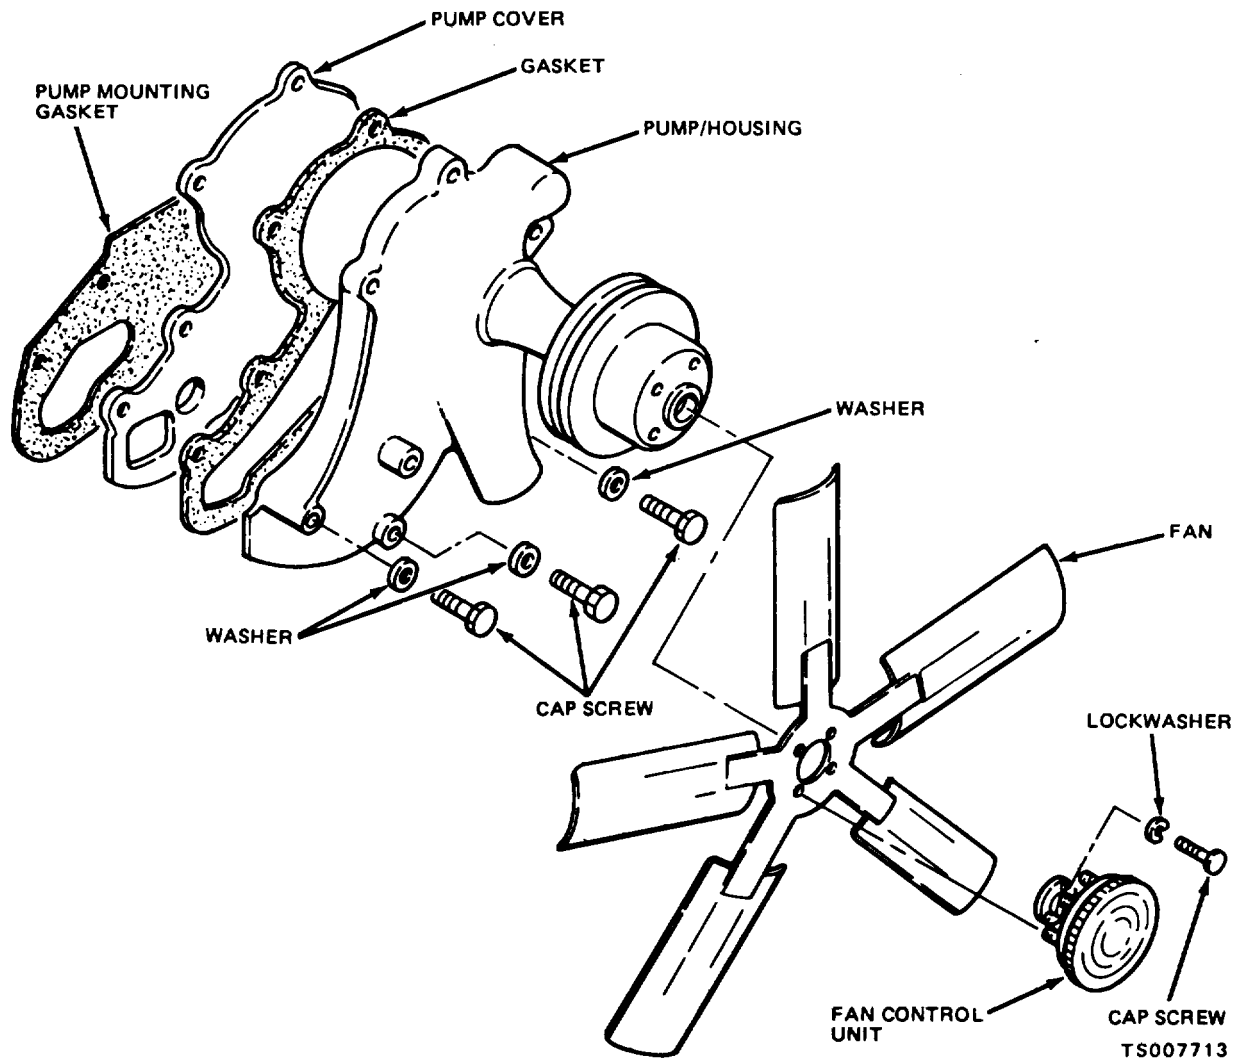

Figure 4-40. Water Pump and Fan Blade, Removal and Installation
(1) Remove the fan and alternator belts (para 4-55).
(2) Remove the fan blade and water pump as shown in figure 4-40.
(1) Reassemble and install the water pump and fan blade as shown in figure 4-40. Use a new gasket at installation. Torque cap screws to 25 to 30 foot-pounds torque.
(2) Install and adjust the fan and generator drive belts (para 4-55).